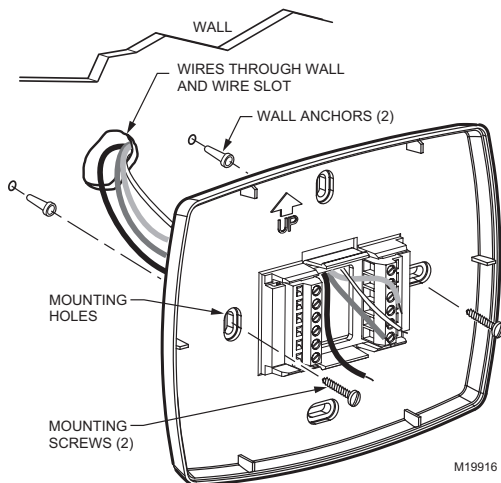

Fig. 6. Mounting wallplate.
- Position the wallplate over the holes, pulling wires through the wiring opening. See Fig. 6.